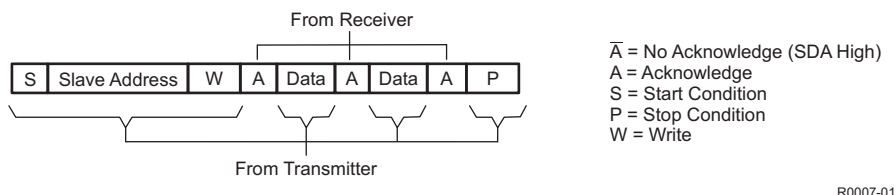
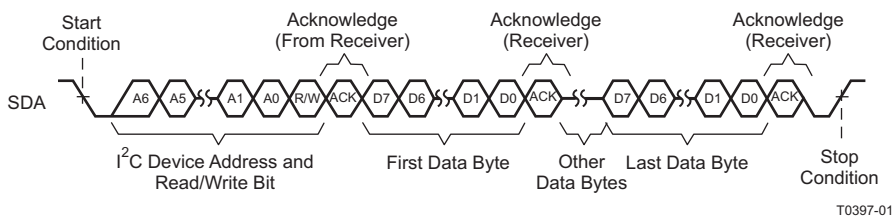

Figure 54. I²C Write Cycle
Figure 55. Multiple-Byte Write Transfer
- The master generates further SCL cycles to either *transmit* data to the slave (R/W bit 0) or *receive* data from the slave (R/W bit 1). In either case, the *receiver* must acknowledge the data sent by the *transmitter*. So an acknowledge signal can be generated either by the master or by the slave, depending on which one is the receiver. The 9-bit valid data sequences consisting of 8-bit data and 1-bit acknowledge can continue as long as necessary (See Figure 54 through Figure 57).
During a write cycle, the transmitting device must not drive the SDA signal line during the acknowledge cycle so that the receiving device may drive the SDA signal low. After each byte transfer following the address byte, the receiving device pulls the SDA line low for one SCL clock cycle. A stop condition is initiated by the transmitting device after the last byte is transferred. An example of a write cycle can be found in Figure 54 and Figure 55. Note that the TMDS261B allows multiple write transfers to occur. See the Example – Writing to the TMDS261 section for more information.